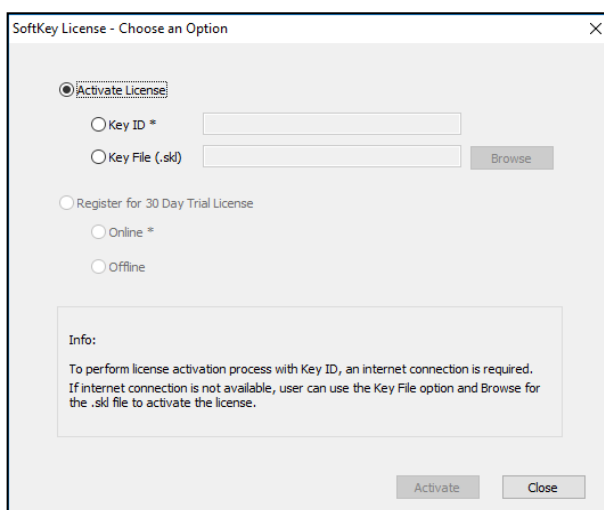

Figure 13. Activate License
- a. From the **CHOOSE AN OPTION** page (Figure 13), select **KEY ID**.
- b. From the **CHOOSE AN OPTION** page (Figure 13), select **KEY FILE (.skl)**.